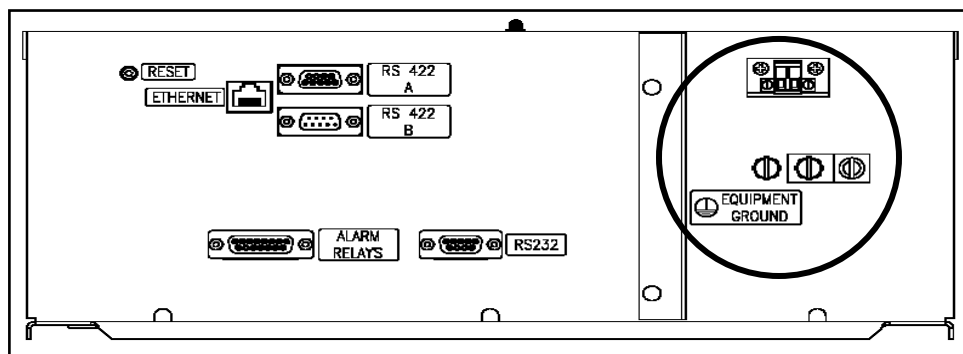

Figure 5. ADH NETCOM AC NEMA POWER CONNECTIONS.
6. At this time, connect the power and ground wires to their respective terminal lugs inside the enclosure. Refer to Figure 5. Once the power and ground wires have been connected securely inside the enclosure, seal the access hole so that no ambient air can get inside the enclosure. If desired, first seal the hole and then connect the wires.